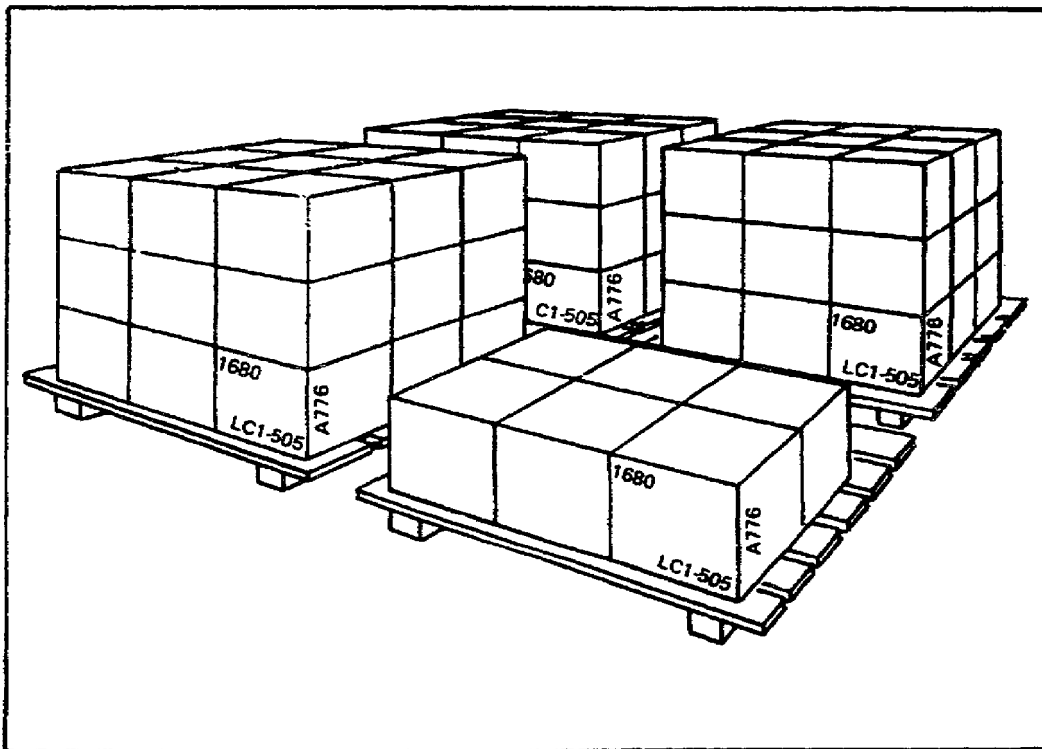

Figure 4-5. Four Pallets with the Same DODIC and Lot Numbers.
- Compute the total number of rounds. Follow the example below to see how the counter and the recorder arrive at the total number of rounds. Figure 4-5 shows 3 full pallets and 1 light pallet. The counter tells the recorder the number of full pallets, light pallets, and the number of rounds per box. In the example, there are 3 full pallets, 27 boxes per pallet, with 1,680 rounds per box. The recorder computes the total number of rounds using this formula: rounds per box times the total number of boxes (pallets times boxes per pallet) equals the total number of rounds. Therefore: